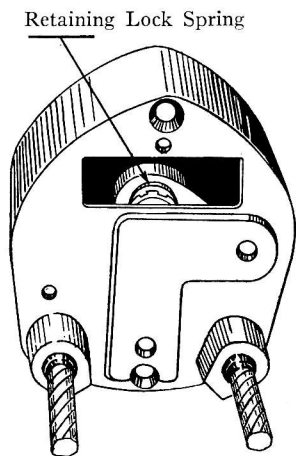

FIG. 1
7. Reach in through the oblong opening in the rear of the control with a medium-sized screw driver and press down the brass retaining lock spring, at the same time working the key and lock cylinder forward (see Fig. 1).